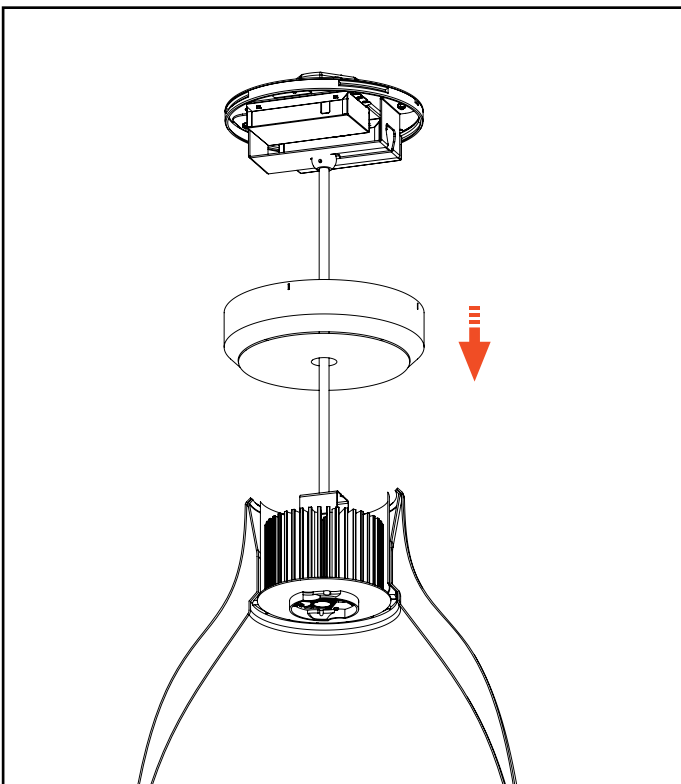

Figure 18
3. Take out the **Canopy Cover (H)** by pulling down (Figure 18)